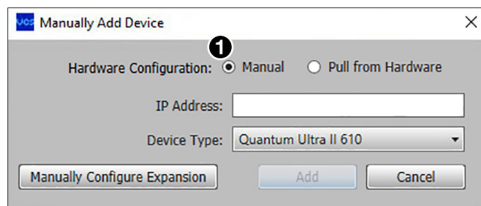

Figure 10. Manually Add Device Dialog Box
- In the Manually Add Device dialog box, select the **Hardware Configuration: Manual** radio button (see figure 10, ①).